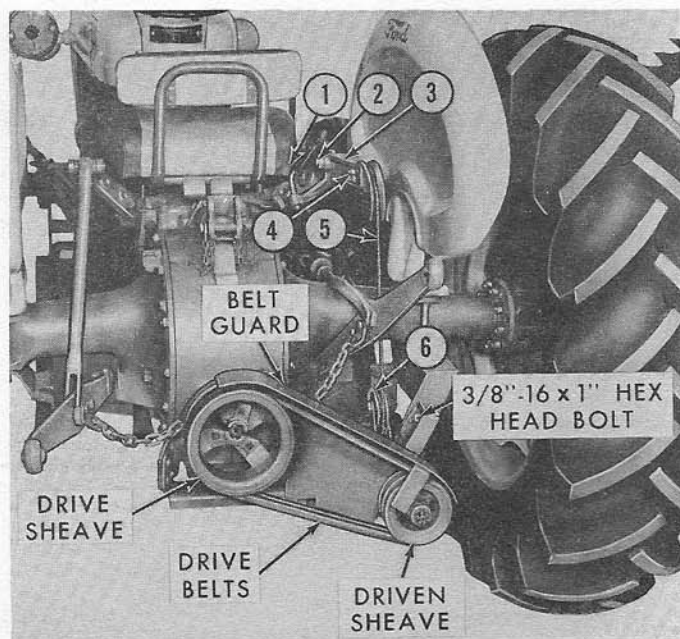

Figure 16
9. Attach the lift arm extension (3) to the tractor right lift arm with the U-bolt (1) and pin (2), as shown in Figure 16.
11. Slip the drive belts, Figure 16, over the drive and driven sheaves.
- Remove the belt guard, Figure 16. Loosen the drive belt adjusting link assembly and unhook it from the tractor drawbar support. Remove the belts.